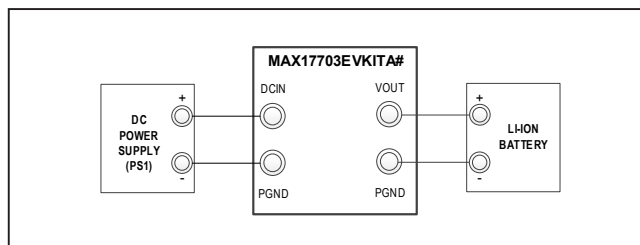

Figure 1. Battery Connection with EV Kit
- 3) Connect PS1 and Li-ion battery to the EV kit as shown in Figure 1.